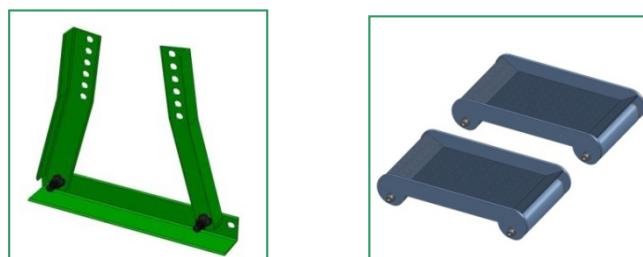

Figure 5.7
5.5 Clamps and tools: include wheel support bracket, car trolley, manual wrench and tools board etc. See figure 5.7